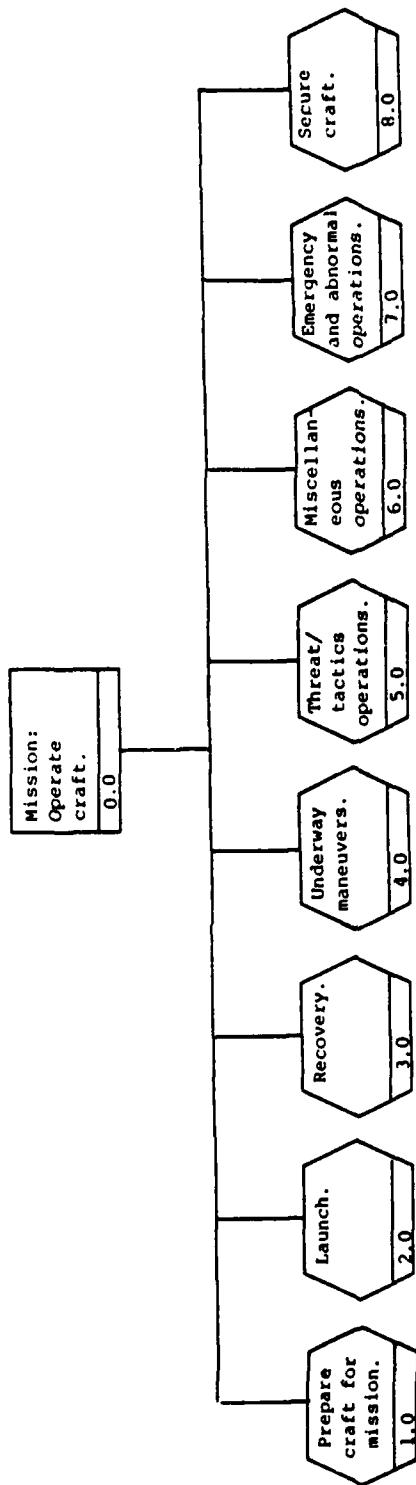

Figure 2. Mission Phases Flowchart
This volume contains the task listing for the JEFF(B) operator. The mission was divided into phases as indicated in the flowchart in Figure 2. Each phase was subdivided into major tasks and subtasks that together describe the entire mission phase.